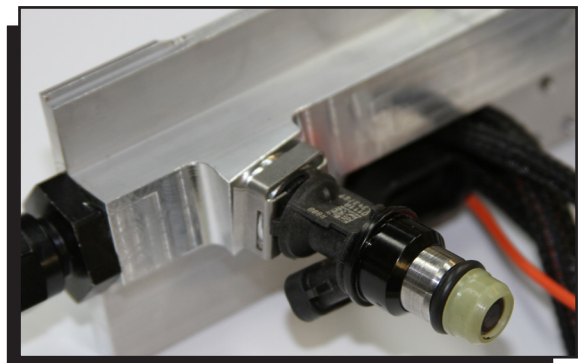

Figure 2
2. Install the injector retainer clips onto the injectors. The injector clips will automatically secure the injector to the fuel rail when they are inserted into the bung (Figure 2).
4. Lubricate the o-rings on the injectors with some motor oil or silicone lubricant and push the fuel injectors into the bung without forcing them on. The injectors should slide in easily. Use the injector clips to lock the injectors onto the fuel rails (Figure 2).